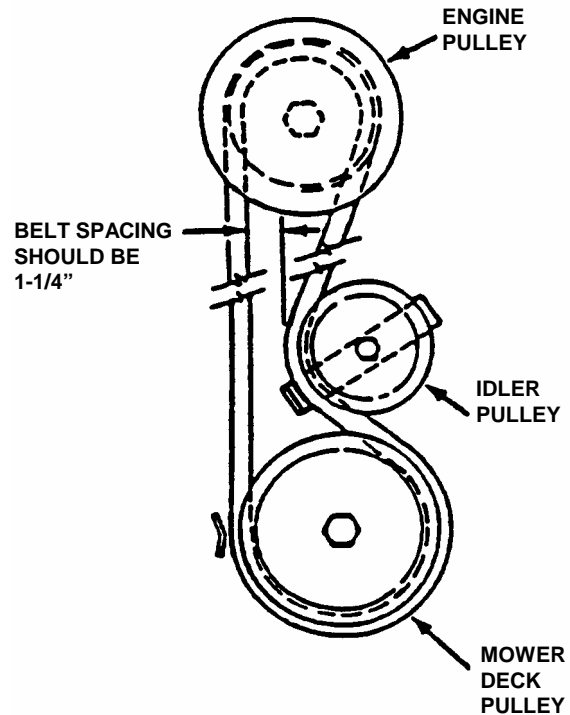

FIGURE 3.4
5. Measure the belt spacing at idler pulley. See Figure 3.4. The belt spacing should be 1 1/4" but no less 1". If the measurement is less than 1", the belt tension should be adjusted. Refer to Section "BLADE DRIVE BELT ADJUSTMENT".